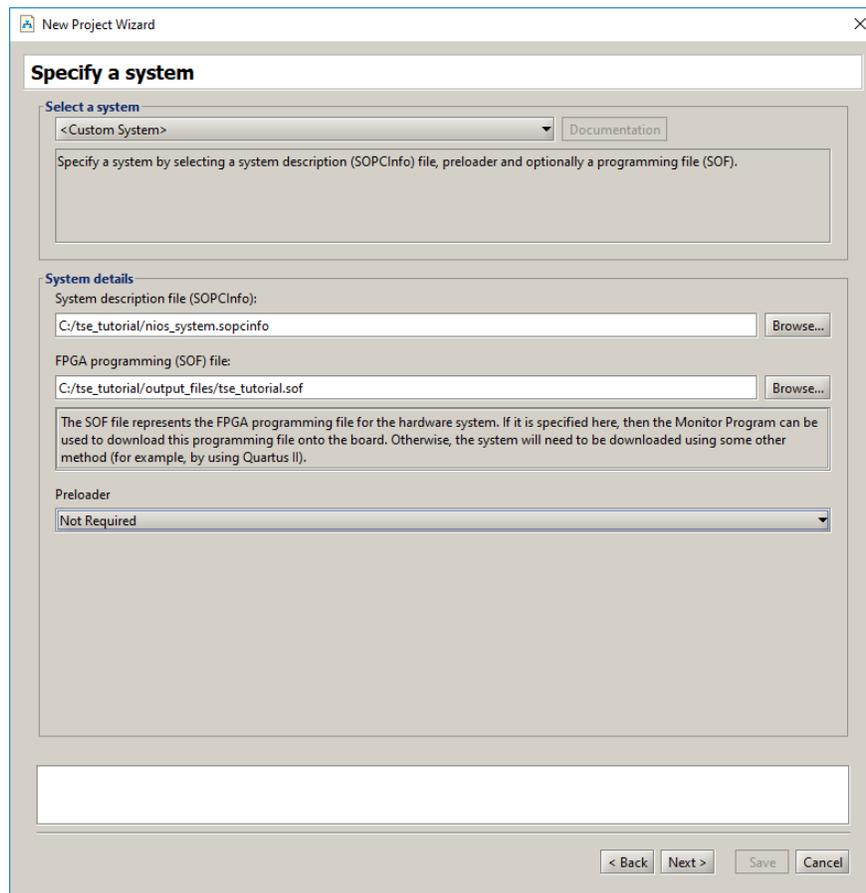

Figure 23. Specifying a system.
5. In the window in Figure 23, select **Custom System** as the system type and browse to find the appropriate *.sopcinfo* and *.sof* files. Select **Not Required** for the preloader. Click **Next**.